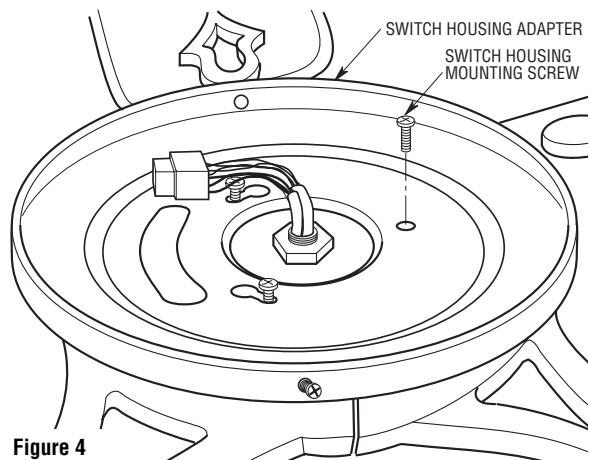

Figure 4
- 5. Remove and retain one of the switch housing mounting screws (Figure 4) from the motor hub. Loosen the two remaining switch housing screws.
- 6. Position the switch housing adapter onto the motor hub. Rotate the switch housing adapter clockwise to engage the key hole slots (Figure 4). Secure the switch housing adapter to the fan motor housing by reinstalling the previously removed screw into the remaining hole. Tighten the three screws at this time.